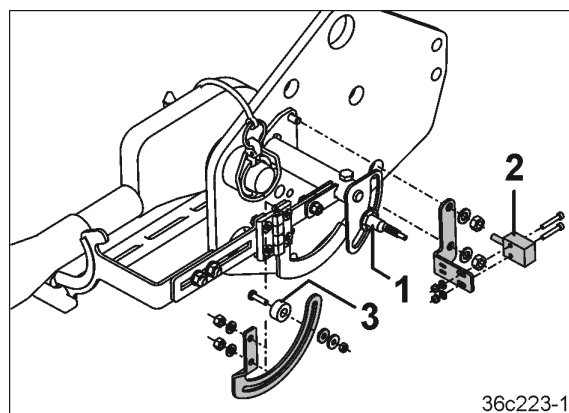

Fig. 52
- Digital working position sensor (Fig. 52/1) for an implement combination with AMADRILL+
- Working position sensor (Fig. 52/2) for seed tube monitoring with adjustment magnet (Fig. 52/3).